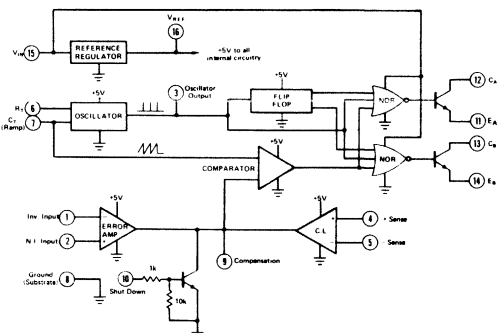
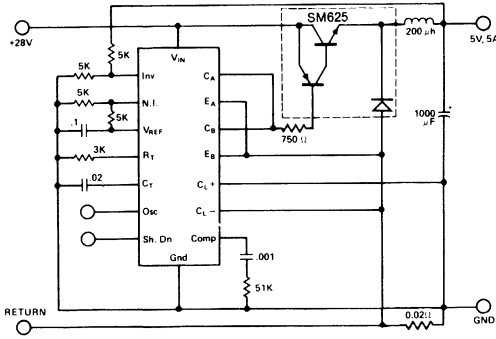

Figure 1. SG1524 Block Diagram
Figure 2. SG1524 Single-Ended Switching Regulator
From the block diagram shown in Figure 1, it can be seen that the SG1524 contains the elements necessary to implement either single-ended switching regulators or DC to DC converters of several different configurations. This device includes a voltage reference, error amplifier, constant frequency oscillator, pulse width modulator, pulse steering logic, dual alternating output switches, and current limiting and shutdown circuitry. Since many of the different types of applications for this IC have been discussed earlier(1) it should suffice to review only two of the more common usages as shown in Figures 2 and 3.
The single-sided regulator of Figure 2 is unique because of its simplicity. This circuit combines an SG1524 with an SM625 hybrid to build a 5 volt, 5 amp regulator with all the semi-